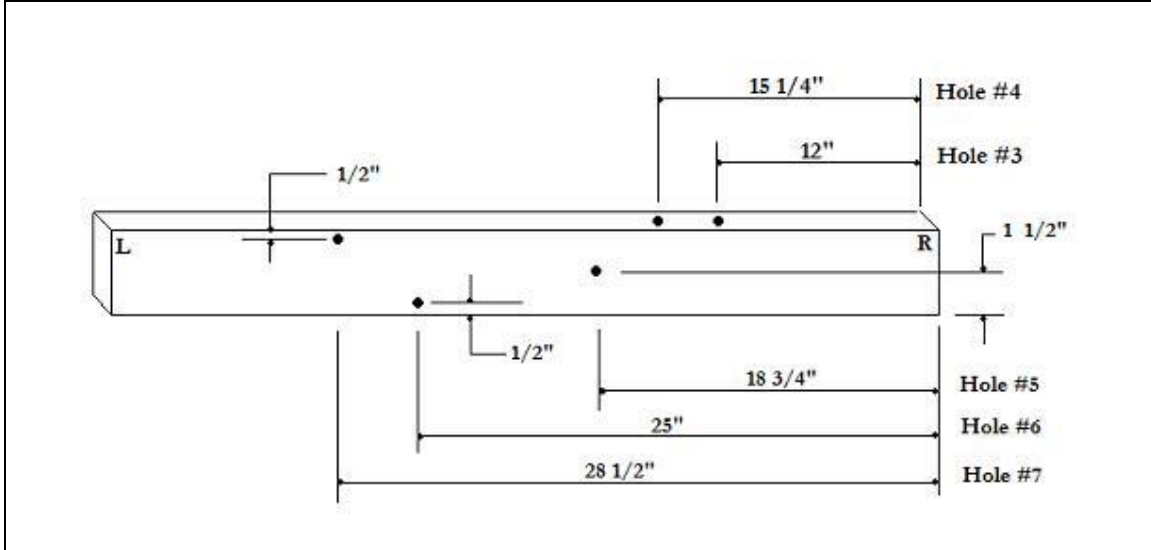

Fig. 2 - Rear Treadle Pulley Support Crossmember Holes
1) Install the Eye-Bolt for the Spring Lever Cord – (See Figure 2 & 4) From the inside, rear of the loom, into Hole No. 5 of the Rear Crossmember, insert the 5/16 -18 x 4” Eye-Bolt, with one (1) 5/16 -18 Jamb Nut and one (1) 5/16 “ Flat Washer. Secure it, on the outside of the Crossmember, with one (1) 5/16” Washer, and one (1) 5/16 -18 Nylock. This entire sub-assembly should be installed as follows:
2) Mount the Spring Lever Assembly – (See Figures 2 & 4) Load one (1) 3/8 – 16 x 3 1/2” Hex Bolt with one (1) 3/8 Washer, the Spring Lever (with factory inserted Bushing), and black plastic Spacer. Check to see that the hex bolt holding the Pulley, which is mounted on the side of the Lever, is pointing in the same direction as the hex
3) Mount the Spring Assembly – (See Figure 2 & 4) From the inside, rear of the loom, into Hole No. 7 of the Rear Crossmember, insert the 5/16 - 18 x 3 1/8" J-Bolt, with one (1) 5/16 – 18 Jamb Nut and one (1) 5/16 " Washer. Secure it, on the outside of the Crossmember, with one (1) 5/16" Washer and one (1) 5/16 – 18 Nylock. This entire sub-assembly should be installed as follows: